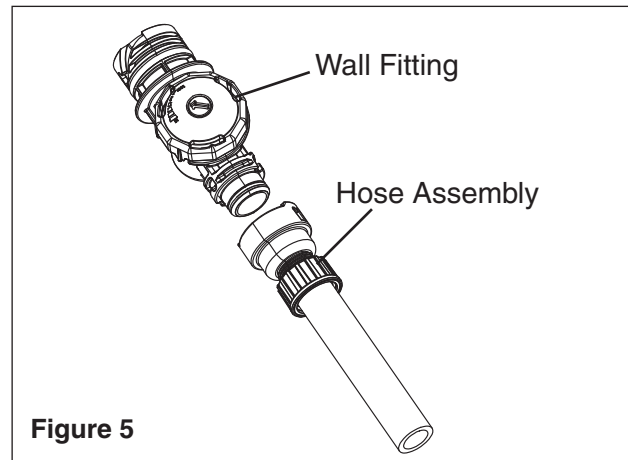

**Figure 3**
1. Measure the deepest part of the pool. See **Figure 3**.